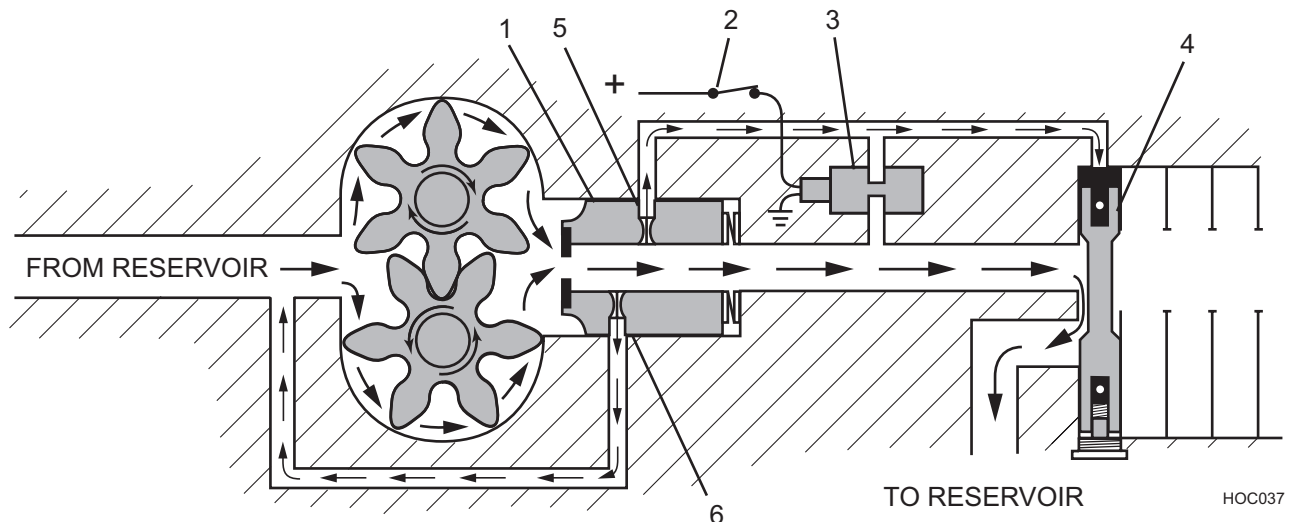

Figure 26
- Flow control shifts (Figure 26, Item 1)
- Pump switch ON (Figure 26, Item 2)
- N.O. valve in CLOSED position (Figure 26, Item 3)
- Inlet unloader valve in UNLOADED position (Figure 26, Item 4)
The smaller port (Figure 26, Item 5) will shift the inlet unloader valve from the WORK position to the UNLOADER position. This will direct all hydraulic oil to the reservoir, bypassing the spool valve assembly, to maintain adequate oil supply for the suction line of the pump.
The larger port (Figure 26, Item 6) will regenerate up to 15 gpm to the suction side of the pump. This additional oil along with the normal oil supply through the suction line will provide adequate oil delivery to meet the pump's oil requirement for the higher revolutions per minute, protecting it from cavitation damage.